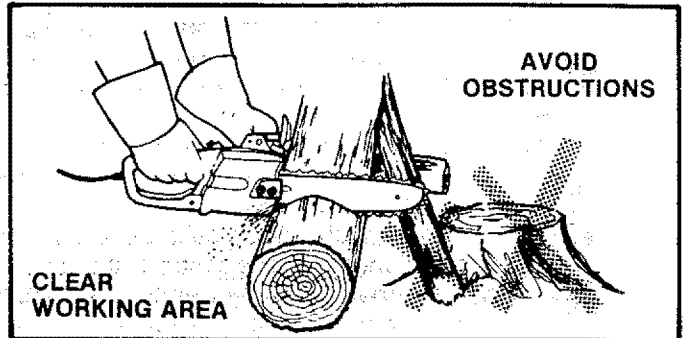

Figure 13
- c. **Keep the working area free from obstructions such as other trees, branches, rocks, fences, stumps, etc.** Figure 13. Eliminate or avoid any obstruction that your saw chain could hit while you are cutting through a particular log or branch.